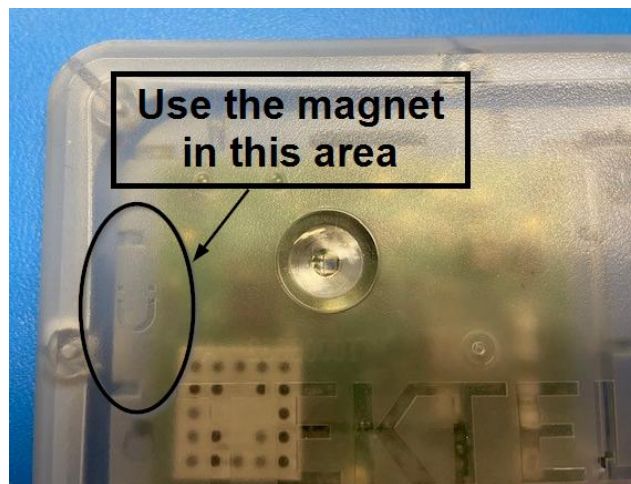

Figure 2: Reed switch location
- i. Place magnet for **3 to 10 seconds** against the enclosure at the magnetic activation site as shown in Figure 2 below.
The magnet sign is illustrated in Figure 2 below: